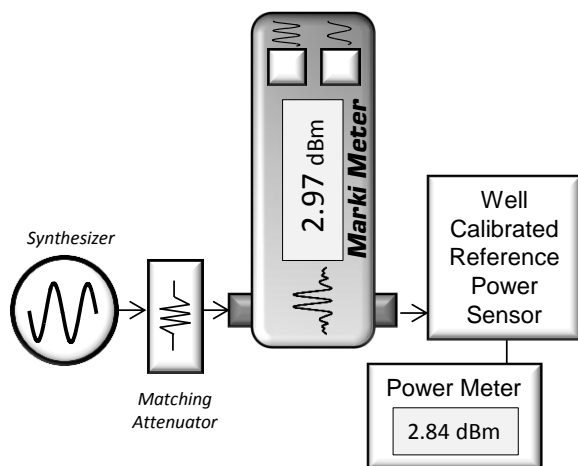

Fig. 6. Experimental Setup to Measure Accuracy
- 5) Attach the PMA1 to the synthesizer and the power meter sensor to the other end of the PMA1. Ensure that all connectors are tightened to their specified torque (5 lb-in for SMA). At this point the difference between the PMA1 reading and the power meter reading is the power error. In the example of Fig. 6 the calculated error would be +.13 dB, which is a typical value under normal operating conditions.